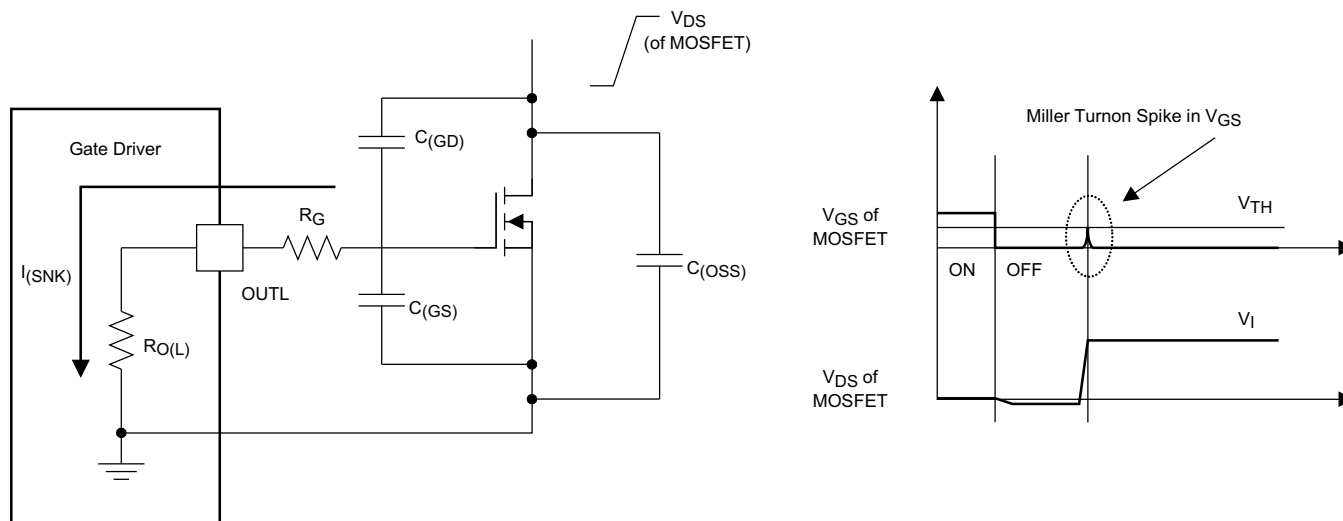

图 24. Very-Low Pulldown Impedance in UCC27511 and UCC27512, 4-A and 8-A Asymmetrical Drive (Output Stage Mitigates Miller Turnon Effect)
An example of a situation where the Miller turnon effect is a concern is synchronous rectification (SR). In an SR application, the dV/dt occurs on the MOSFET drain when the MOSFET is already held in off state by the gate driver. The current discharging the $C_{(GD)}$ Miller capacitance during this dV/dt is shunted by the pulldown stage of the driver. If the pulldown impedance is not low enough then a voltage spike can result in the V_{GS} of the MOSFET, which can result in spurious turnon. This phenomenon is shown in 图 24. The UCC27511 and UCC27512 device offers a best-in-class, 0.375- Ω (typ) pulldown impedance boosting immunity against Miller turnon.